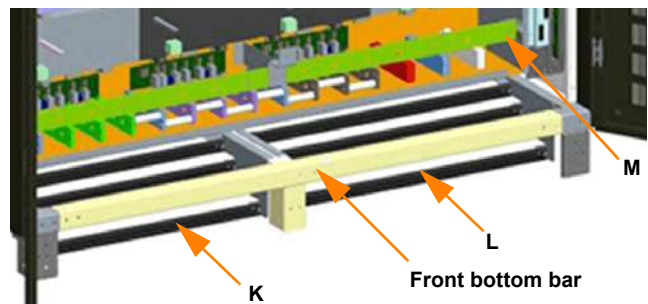

Figure 3.16
14. Fit the final two cable securing bars (K), (L) between the front set of lugs on profiles (A), (B), (C), (D) as shown in Figure 3.16. Secure each bar using two M5 nuts and bolts tightened to a torque of 6.0 Nm.
15. Connect the Input, Bypass and output Earth cables to the earth busbar (M).